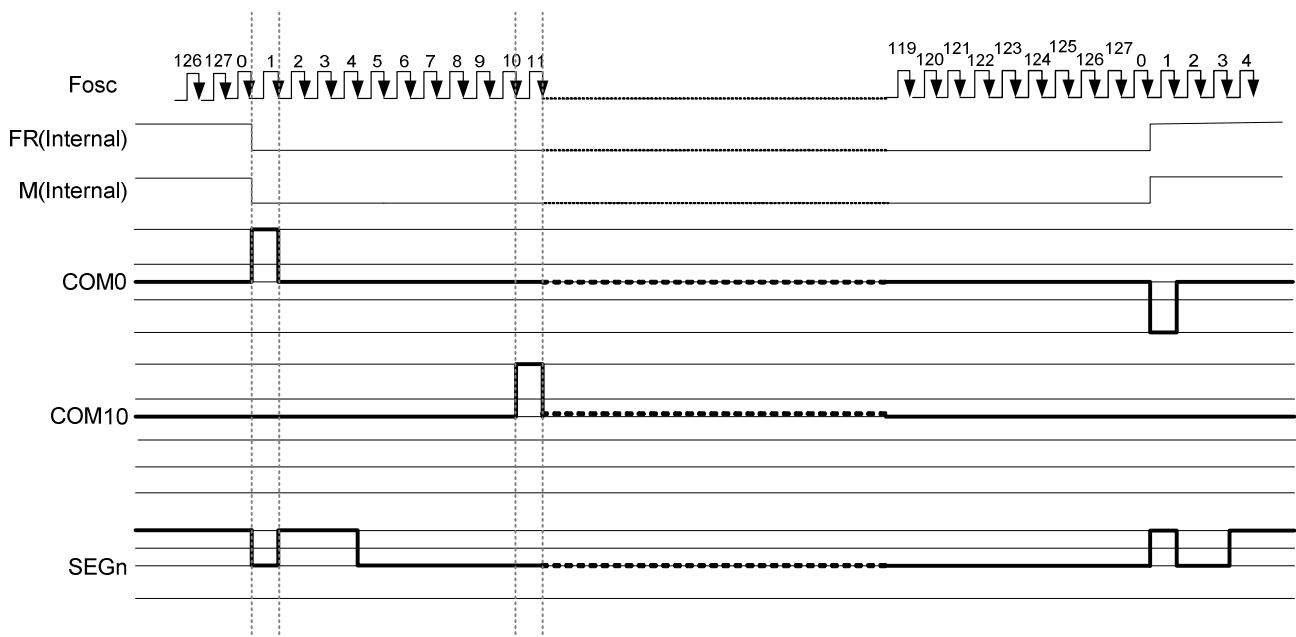

Figure 5 2-frame AC Driving Waveform (Duty Ratio: 1/128)
This circuit generates some signals to be used for displaying LCD. The display clock, which is generated by oscillation clock, generates the clock for the line counter and the signal for the display data latch. The line address of on-chip RAM is generated in synchronization with the display clock and the display data latch circuit latches the 128-bits display data in synchronization with the display clock. The display data, which is read to the LCD driver, is completely independent of the access to the display data RAM from the microprocessor. The display clock generates an LCD AC signal (M), which enables the LCD driver to make an AC drive waveform, and also generates an internal common timing signal and start signal to the common driver. The frame signal or the line signal changes the M by setting internal instruction. Driving waveform and internal timing signal are shown in Figure 5.